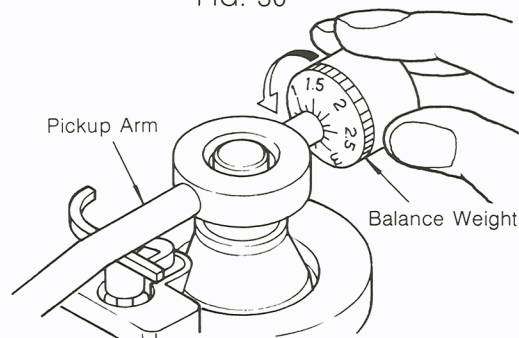

FIG. 31
2. Set the stylus pressure dial to "0", and since the specified stylus pressure of the cartridge is 2.0 grams, set the balance weight dial to "2" by turning the weight counterclockwise, as shown in Fig. 31.